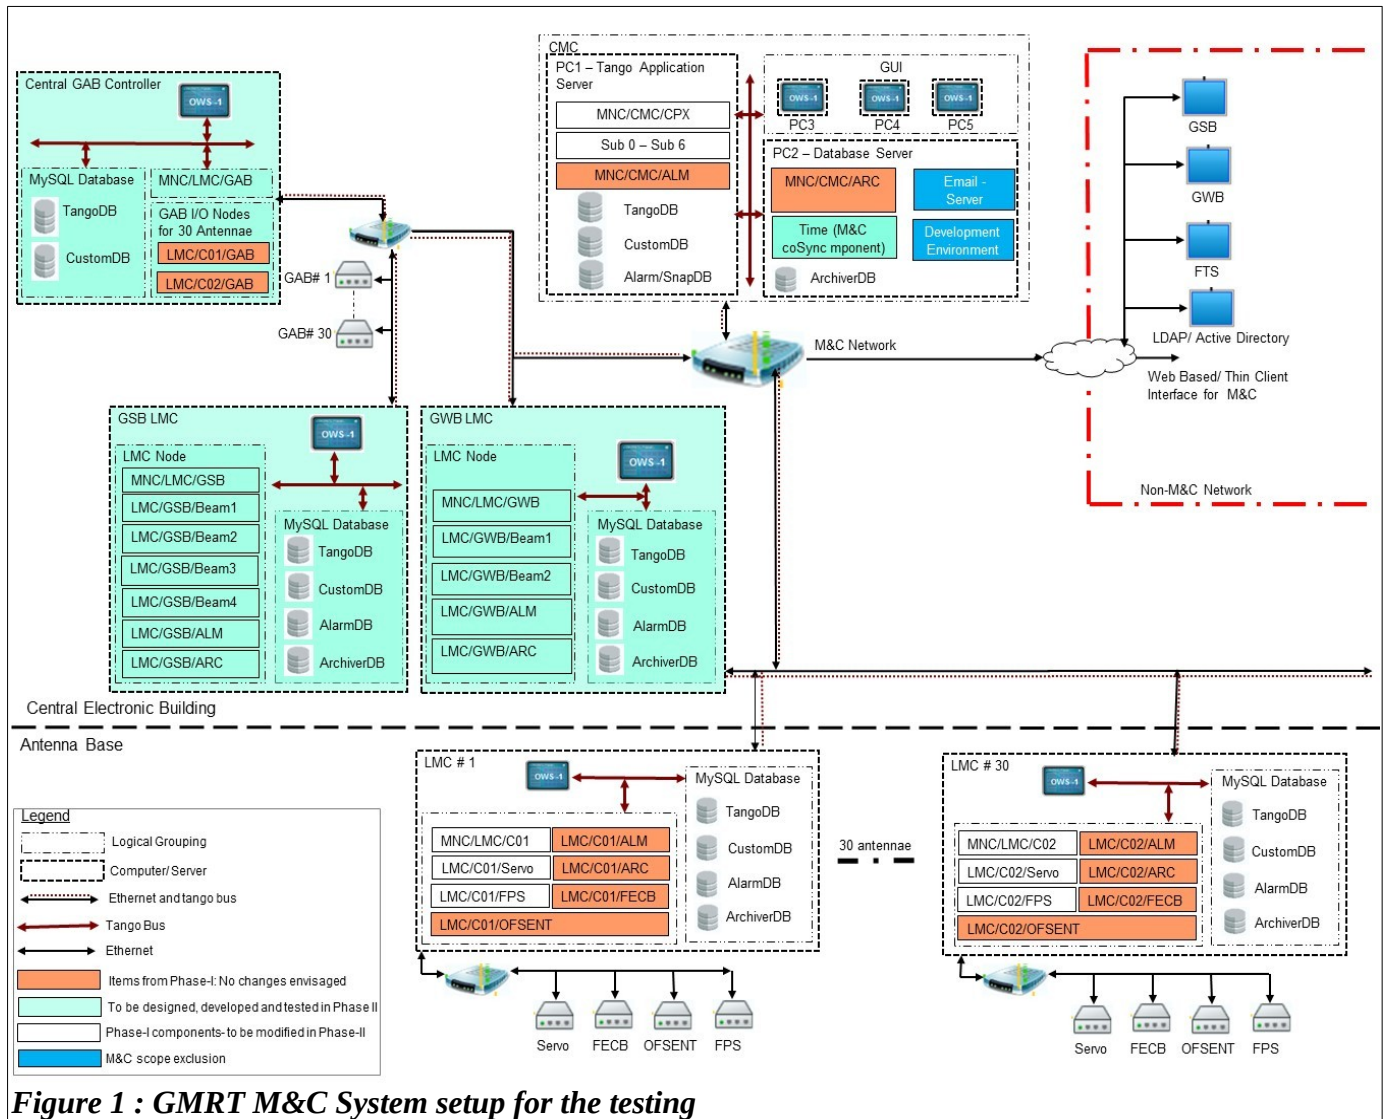

Figure 1 : GMRT M&C System setup for the testing
- (b) Integration Testing :** On the GMRT M&C setup (shown in Figure 1) it self, system integration testing done to ensure the entire application work as per the use-case wise requirements specified in the work-order. Critical business scenario tested throughly to check its error-free working such as tracking celestial source, astronomical data acquisition monitoring, configuring digital back-ends, power-equalization, and grid-pointing.